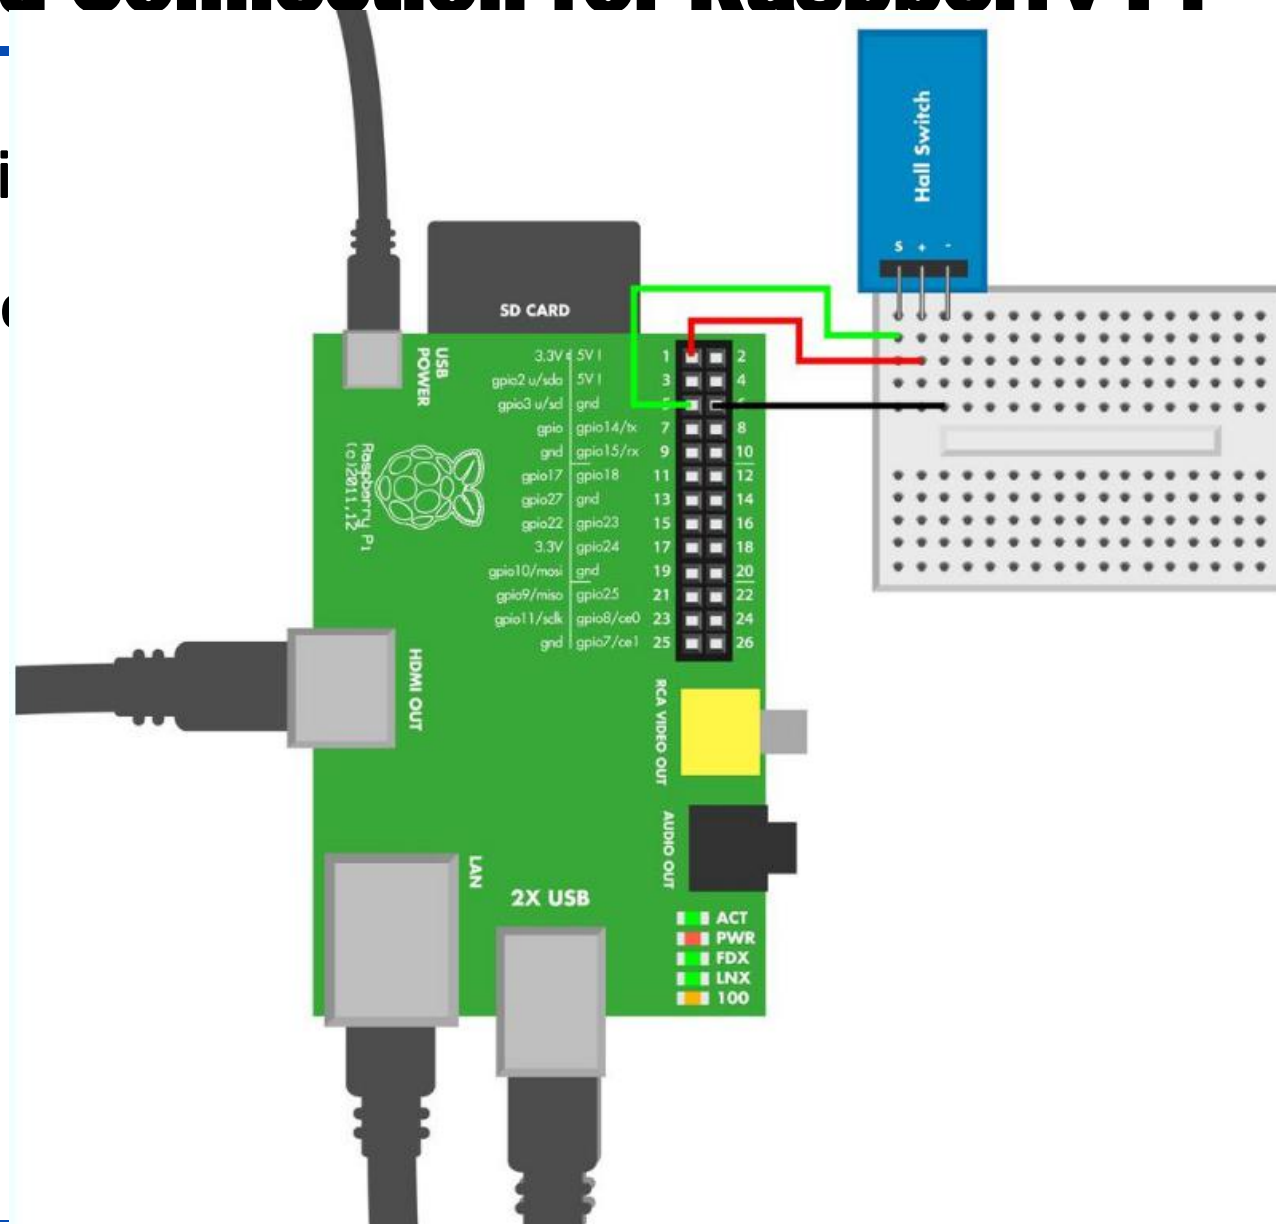

Figure 10-11. Raspberry Pi circuit for Hall switch
- Figure 10-11 shows the circuit